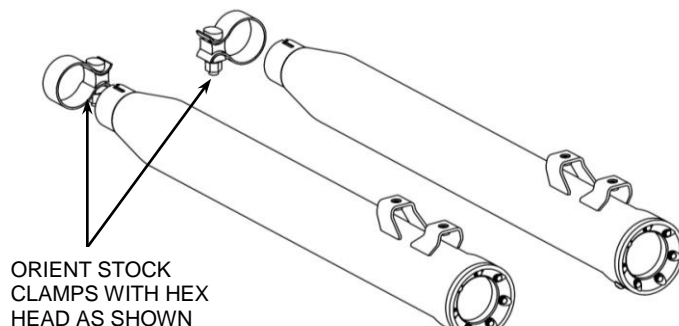

FIGURE 1
3. Position the stock clamps with the hex head facing the ground as shown in **Figure 1** and slide them onto the slip-on mufflers.